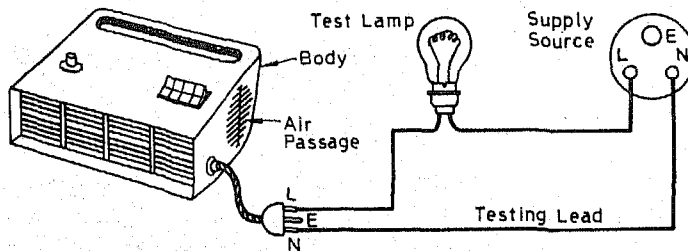

Fig.29.2 Continuity, Short, Open Circuit Test between Conductors.
- (xii) Conduct continuity test with the help of a series test lamp as shown in Fig 29.2. After connecting the lamp observe the light of the test lamp. Press the